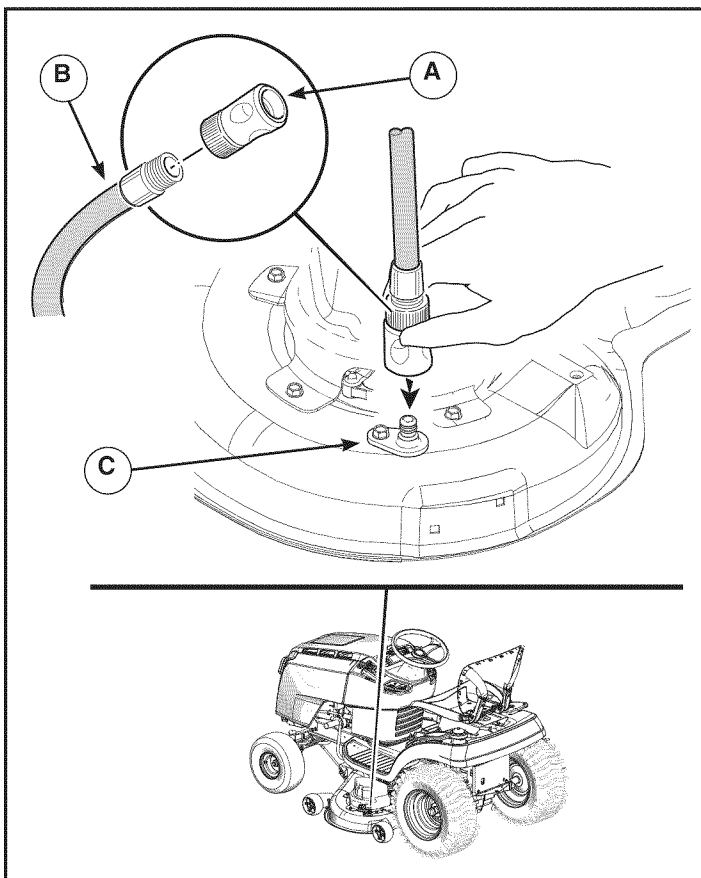

Figure 14
2. Attach the quick disconnect (**A**, Figure 14) to garden hose (**B**) and connect to washout port (**C**) on mower deck.